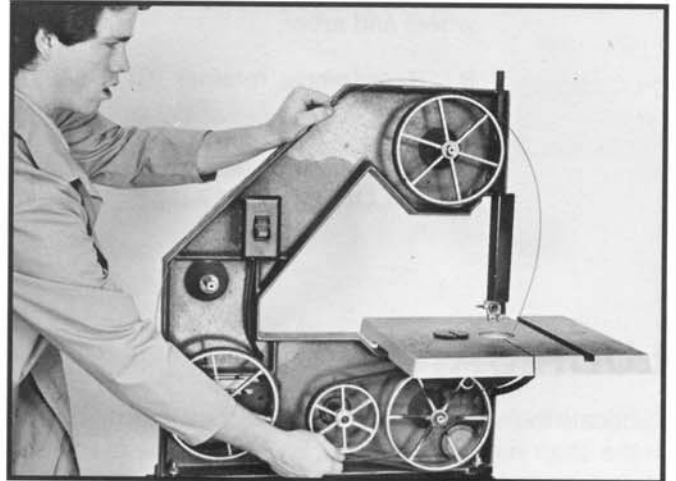

Fig. 25
4. Release blade tension and remove blade as shown in Fig. 25.